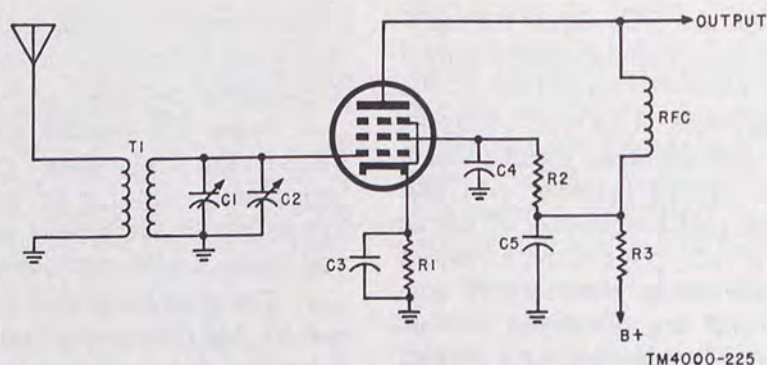

Figure 52. RF amplifier stage.
b. In the RF amplifier stage (fig. 52), choke RFC is the load. Other circuits may have a transformer winding or a resistor as a load. Regardless of the type of load, defects in them will cause similar symptoms.